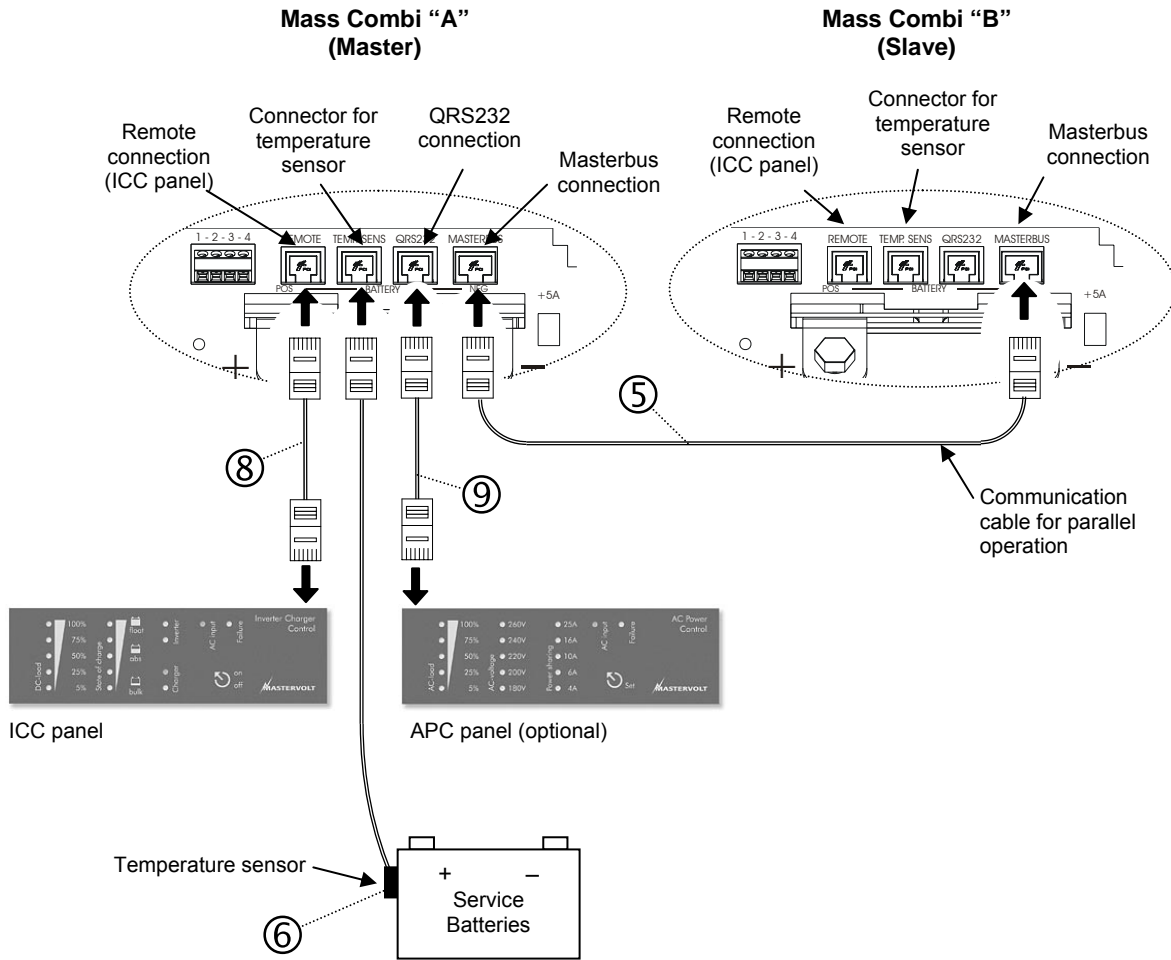

Figure 25: Connection of remote control panels, battery temperature sensors and communication cable for parallel operation
- 2 See reference ②. Connect the "AC output POWER" of Combi "A" to the power distribution group.
- 3 See reference ③. Connect the "AC output SHORT BREAK" of both Mass Combi "A" and Mass Combi "B" to the SHORT BREAK distribution. Beware that the L, N and PE / GND wiring may not be exchanged.
- 4 See reference ④. Run the DC-cables between the DC-distribution and each Mass Combi. Connect the red cable to the plus (+) connection, the black cable to the minus (-) connection. Do not install the DC-fuses of the DC-distribution before the entire installation is completed (see chapter 7).
- 5 See figure 25, reference ⑤. Run the modular 8-pole communication cable between Mass Combi "A" and Mass Combi "B". Connect this cable to the MASTERBUS connectors.
- 6 See reference ⑥. Attach the temperature sensor to the battery and run the cable into Mass Combi "A" and connect the RJ12 connector to the "TEMP.SENS"-connector (Data Bus Connections)
- 8 See figure 25, reference ⑧. If you want to install the ICC remote control panel, run the communication cable between Mass Combi A and the panel. Connect the RJ12 connector to the "REMOTE"-input (Data Bus Connections) of Mass Combi A.